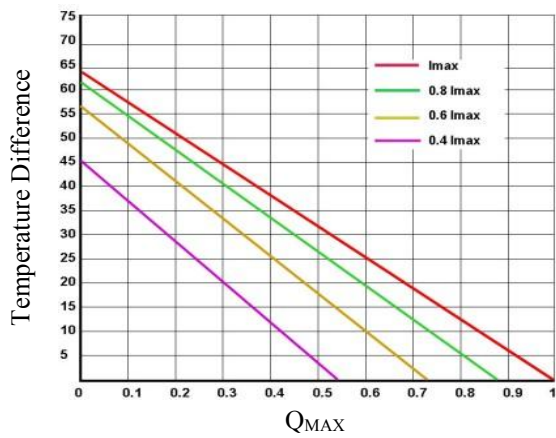

Figure 2. Temperature Difference vs. QMAX
- Use the charts provided in Figure 2 to Figure 9, to decide which TEC to use, what is the heat needed to be dumped through the heat sink, what is the heat sink temperature, etc.